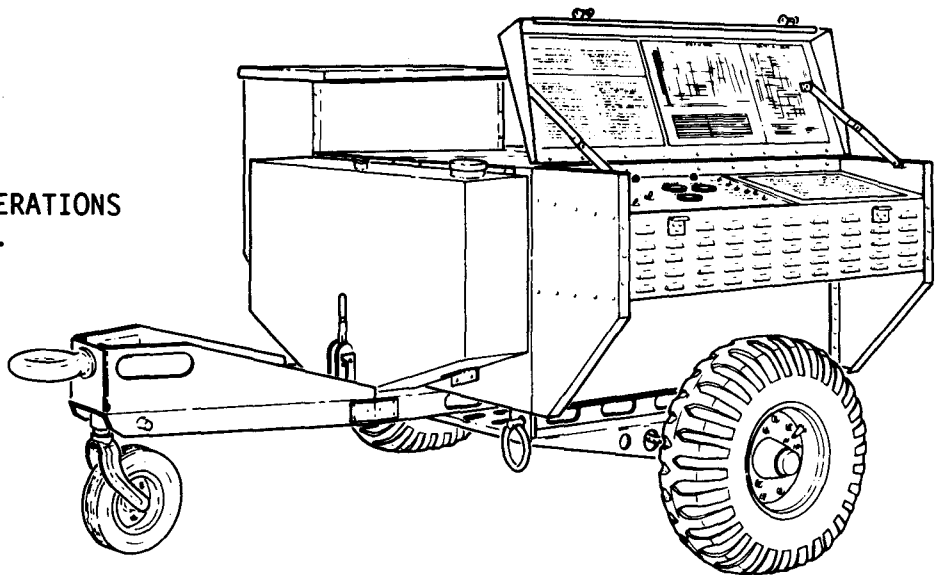

Figure 2-4. Sequence of Operation, Generator Set Start (Steps 4 and 5)
e. Connect Power Cable. Insert power cable into aircraft receptacle as far as it will go. (See figure 2-4, step 4.)
f. Starting Procedures. See figure 2-4, step 5, and proceed as follows.